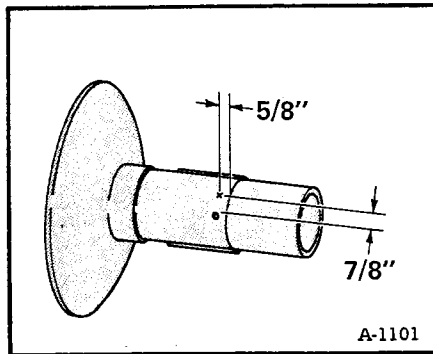

Fig. 62 Location of Alignment Hole
2. Locate and drill a 19/64" hole (Figure 62).